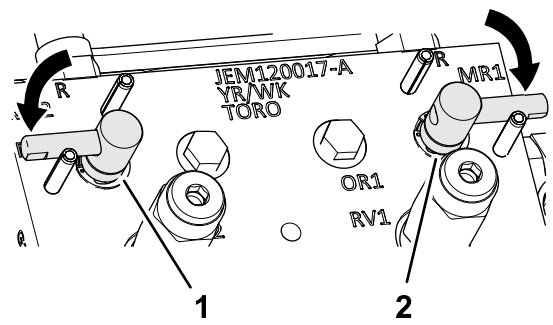

Figure 110
3. Move the backlap levers to the F (mow) position (Figure 110).